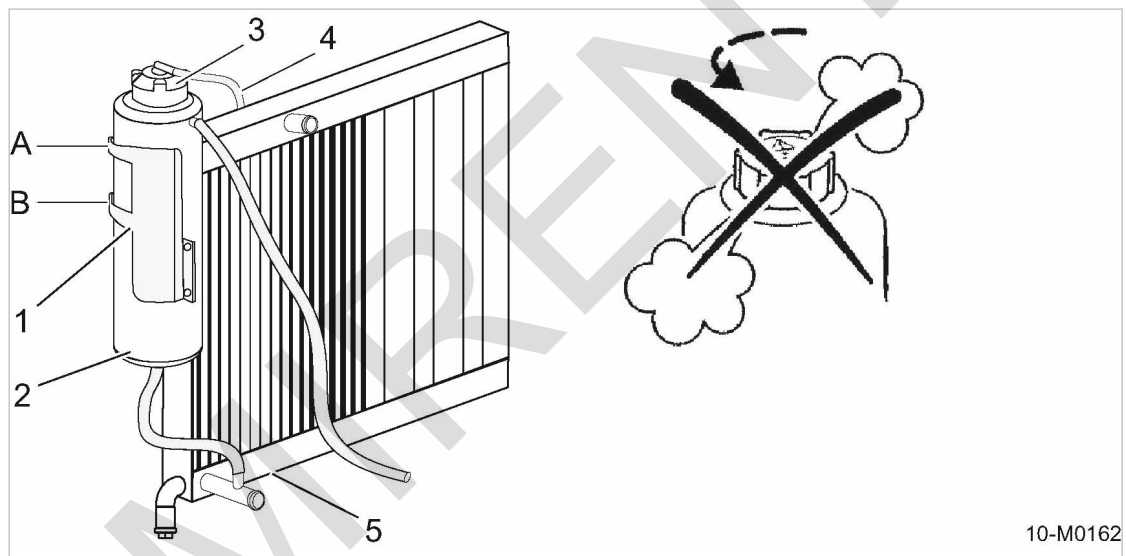

Fig. 23 Checking coolant level
- ① Radiator
- ② Radiator drain plug
2. Unscrew the expansion tank cap (see Fig. 23).
3. Loosen and remove the drain plug ②.